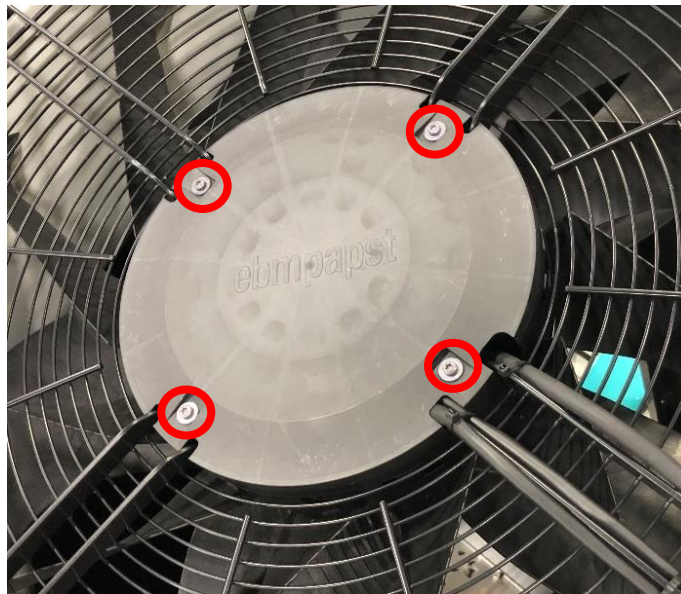
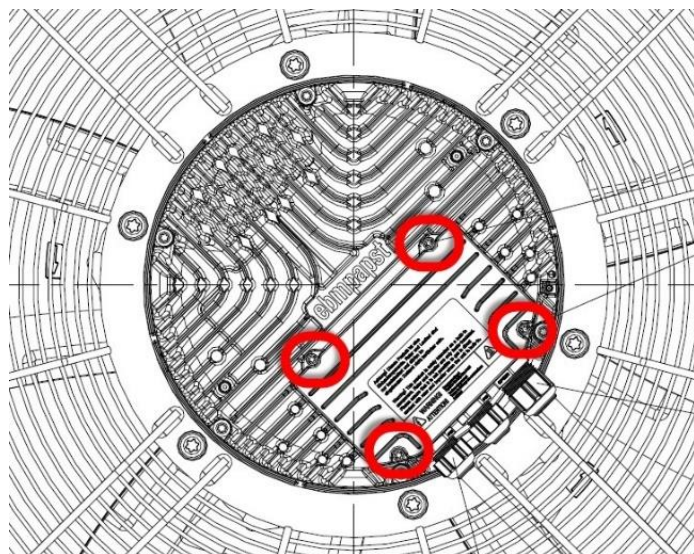

Figure 19. Fan Cover Plate
Figure 20. Terminal Box Cover
2. Remove the fan cover plate by removing the four fasteners as shown in **Figure 19**.
3. Remove the terminal box cover by removing the four fasteners as shown in **Figure 20**.
11. Remove the fan cover plate and terminal box cover shown in **Figure 19** and **Figure 20** respectively. Remove caps from the cable glands.
- Inspect the terminal box cover gasket and reinstall the terminal box cover with a tightening torque of 1.5 ± 0.2 Nm as shown in **Figure 20**. Proper installation of the terminal box cover is critical to maintain weatherproof rating of the unit. If the above procedure is not followed, damage due to water ingress will occur.
- Reinstall the fan cover plate with a tightening torque of 3 ± 0.3 Nm as shown in **Figure 19**.